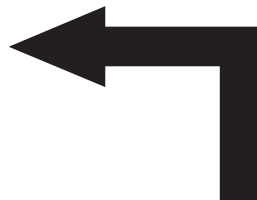

Fig. 15-9
3. Use the **PLINE** command to draw a road sign indicating a sharp left corner, as shown in Fig. 15-9.